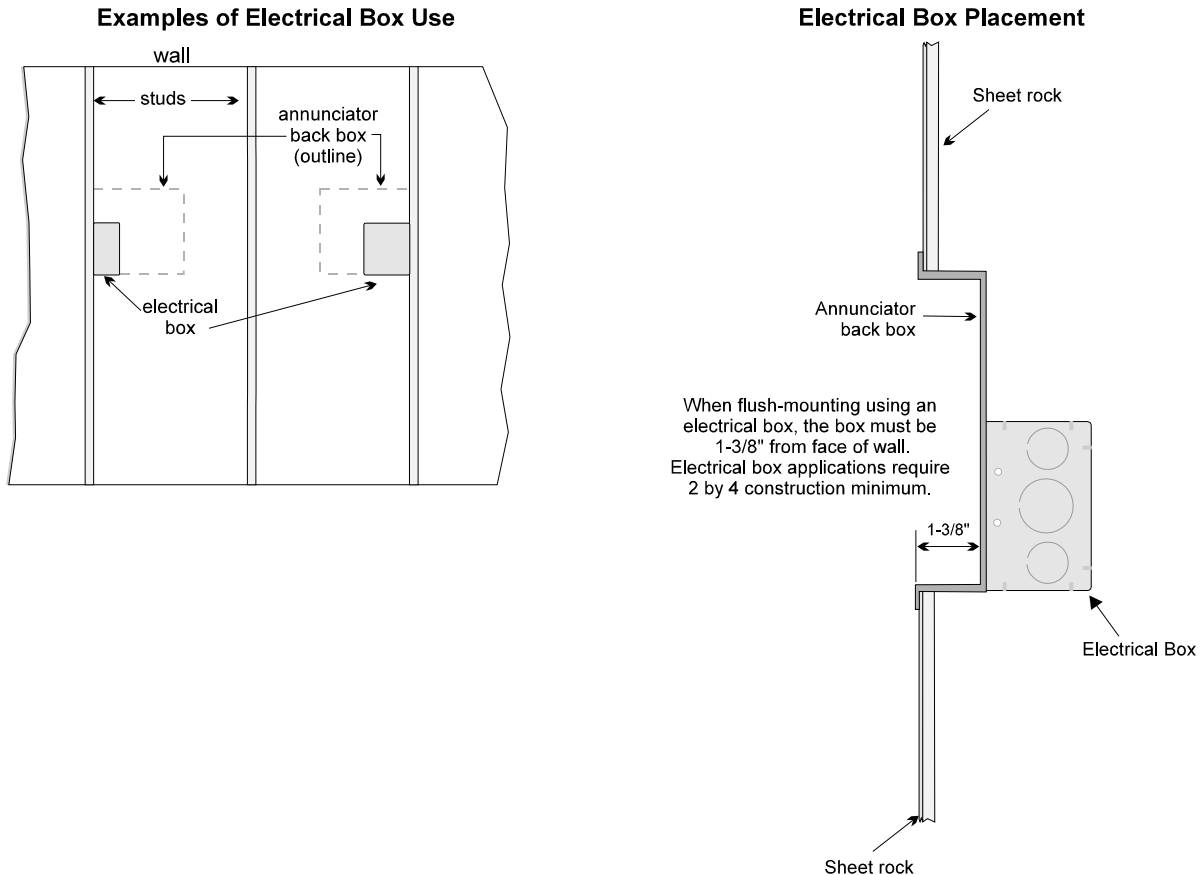

Figure 4-11 Placement of Electrical Box for Flush Mounting
1. Cut a hole in the sheet rock to the following dimensions: 8-1/4" w x 6-5/8" h. If an electrical box is used, the box must be 1-3/8" back from face of wall to accommodate the annunciator (see Figure 4-11).